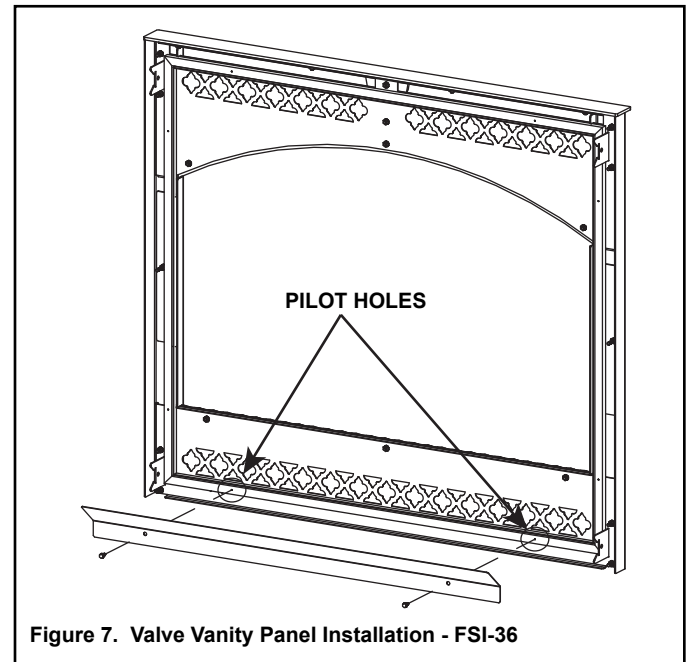

Figure 7. Valve Vanity Panel Installation - FSI-36
7. Install valve vanity panel to pilot holes located on the bottom rail/screen with two screws as shown in Figure 7.